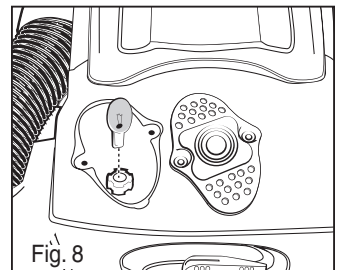

Fig. 8
- 2) Push in new bulb, replace lens cover and replace screw (Fig. 8).
- 2) Use finger to clear blockage from base (Fig. 8). Replace base plate and 3 screws.